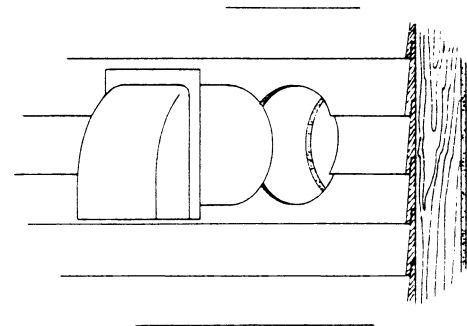

Fig. 3
2. Install door and outside sleeve assembly from outside. Caulk and level assembly before nailing door frame tight. Remove tape, permitting damper door to open. House insulation can be worked around sleeve. (See Figure 3.)
5. Install door and outside sleeve assembly from outside. Caulk and level before nailing tight. Remove tape, permitting damper door to open. (See Figure 3.)